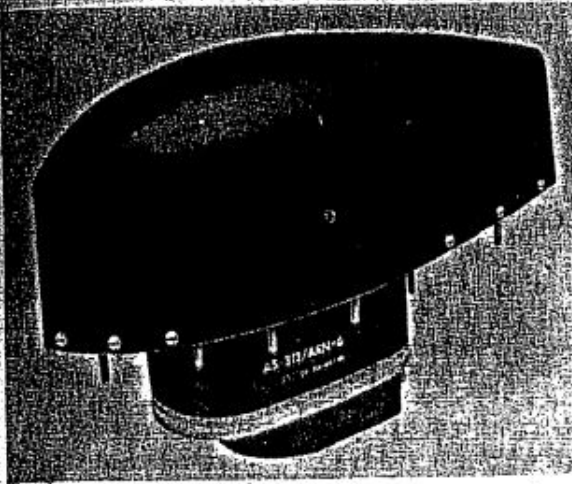

Figure 1-8. Loop AS-313/ARN-6, AS-313A/ARN-6, or AS-313B/ARN-6
f. LOOP AS-313/ARN-6, AS-313A/ARN-6, AN AS-313B/ARN-6. (See figure 1-8.) — Loop AS-313/ARN-6, AS-313A/ARN-6, or AS-313B/ARN-6 is an iron core loop of nine turns, electrically center-tapped by means of a shunt coil of twelve turns and electrically shielded. The loop, in operation, is rotated by the drive motor through a reducing gear train. The compensator, which can be adjusted externally, is utilized to correct for radio compass deviation errors. An autosyn transmitter is geared through the compensator to the rotatable loop and supplies loop position information to the remote indicator system. The loop is designed for mounting through the skin of the aircraft. The entire loop unit is hermetically sealed and filled with dry nitrogen. It cannot be opened without special equipment.